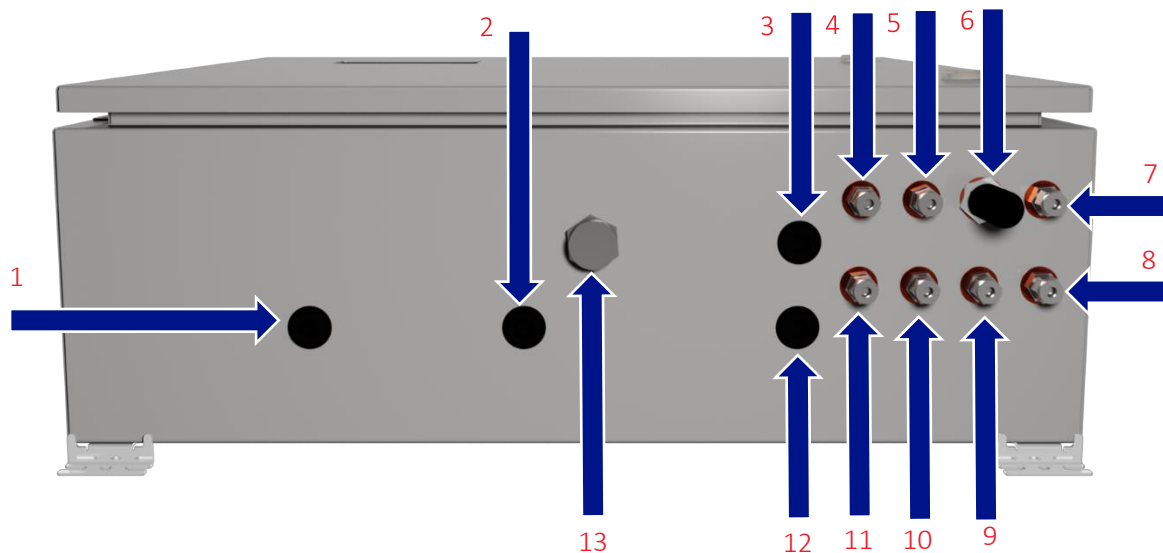

Figure 4 - BIOGAS 3000 customer connections
- Compression fittings – found on the bulkheads on the enclosure base (see annotations 4, 5, and 7-11 on Figure 4 - BIOGAS 3000 customer connections)
There is an enclosure breather fitted to the BIOGAS 3000 situated at the base of the enclosure (see annotation 13 on Figure 4 - BIOGAS 3000 customer connections). It is the user's responsibility to ensure that there is a free circulation of air around the cabinet.
Figure 4 - BIOGAS 3000 customer connections identifies the available connection points on the BIOGAS 3000:
- The sample tube should be connected to the bulkhead connectors labelled 'SAMPLE GAS 1', 'SAMPLE GAS 2', 'SAMPLE GAS 3', and 'SAMPLE GAS 4' where applicable – see annotations 4, 5, 10, and 11 on Figure 4 - BIOGAS 3000 customer connections.
- The gas exhaust line should be connected to the bulkhead connector labelled 'PROCESS RETURN' – see annotation 7 on Figure 4 - BIOGAS 3000 customer connections.
If uncontaminated air cannot be guaranteed at the location of the analyser, the particulate filter should be removed and a pipe should be connected in its place and terminated at a point where uncontaminated air is present. The sample tube should be connected to the bulkhead connector labelled 'AIR IN' – see annotations 6 on Figure 4 - BIOGAS 3000 customer connections.
- The sample tube should be connected to the bulkhead connector labelled 'VENT TO ATMOSPHERE' – see annotation 9 on Figure 4 - BIOGAS 3000 customer connections.
- The drain line should be connected to the bulkhead connector labelled 'DRAIN' – see annotation 8 on Figure 4 - BIOGAS 3000 customer connections.